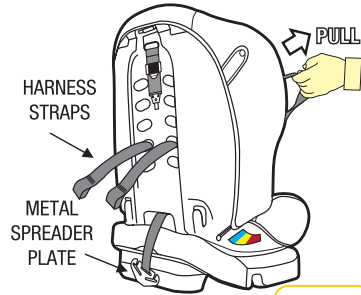

Figure 2
Step 1: Loosen harness to allow spreader plate to rise from under the restraint. Turn the restraint so that the back of the restraint is facing you (refer page 25 Figure 2).
Step 3: Pull the shoulder harness straps through the shoulder slot holes in the restraint body and cover. They are now loose in the front of the restraint (refer Figure 2).